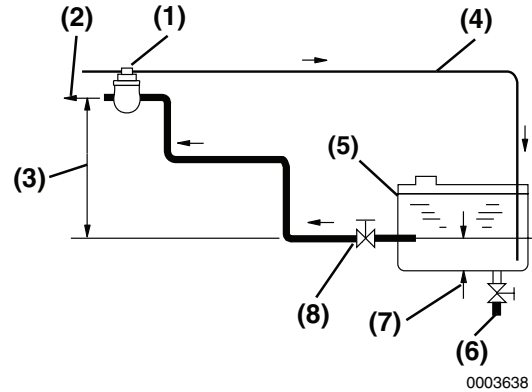

Figure 3-10
Shown is a typical installation of a boat fuel system. Fuel supply (**Figure 3-10, (2)**) and return (**Figure 3-10, (4)**) lines connect to fittings at the engine.
Install a drain cock (**Figure 3-10, (6)**) at the bottom of the fuel tank to remove water and contaminants.